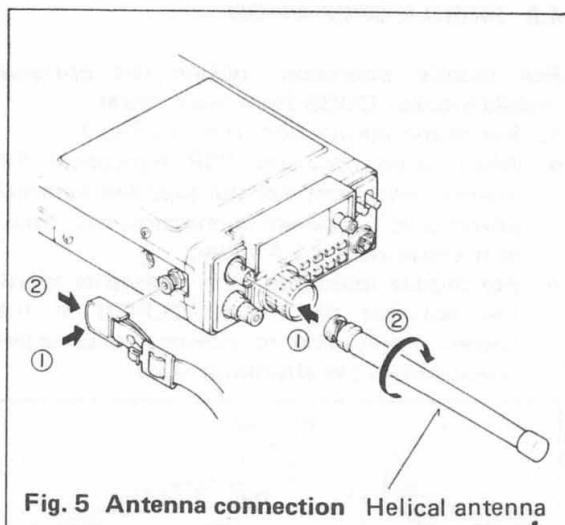

Fig. 5 Antenna connection Helical antenna
2. Attach the supplied shoulder belt to the strapping posts on the unit, and replace the microphone hanger in a convenient position on the shoulder belt. For mounting instructions, see Figs. 5 and 6.